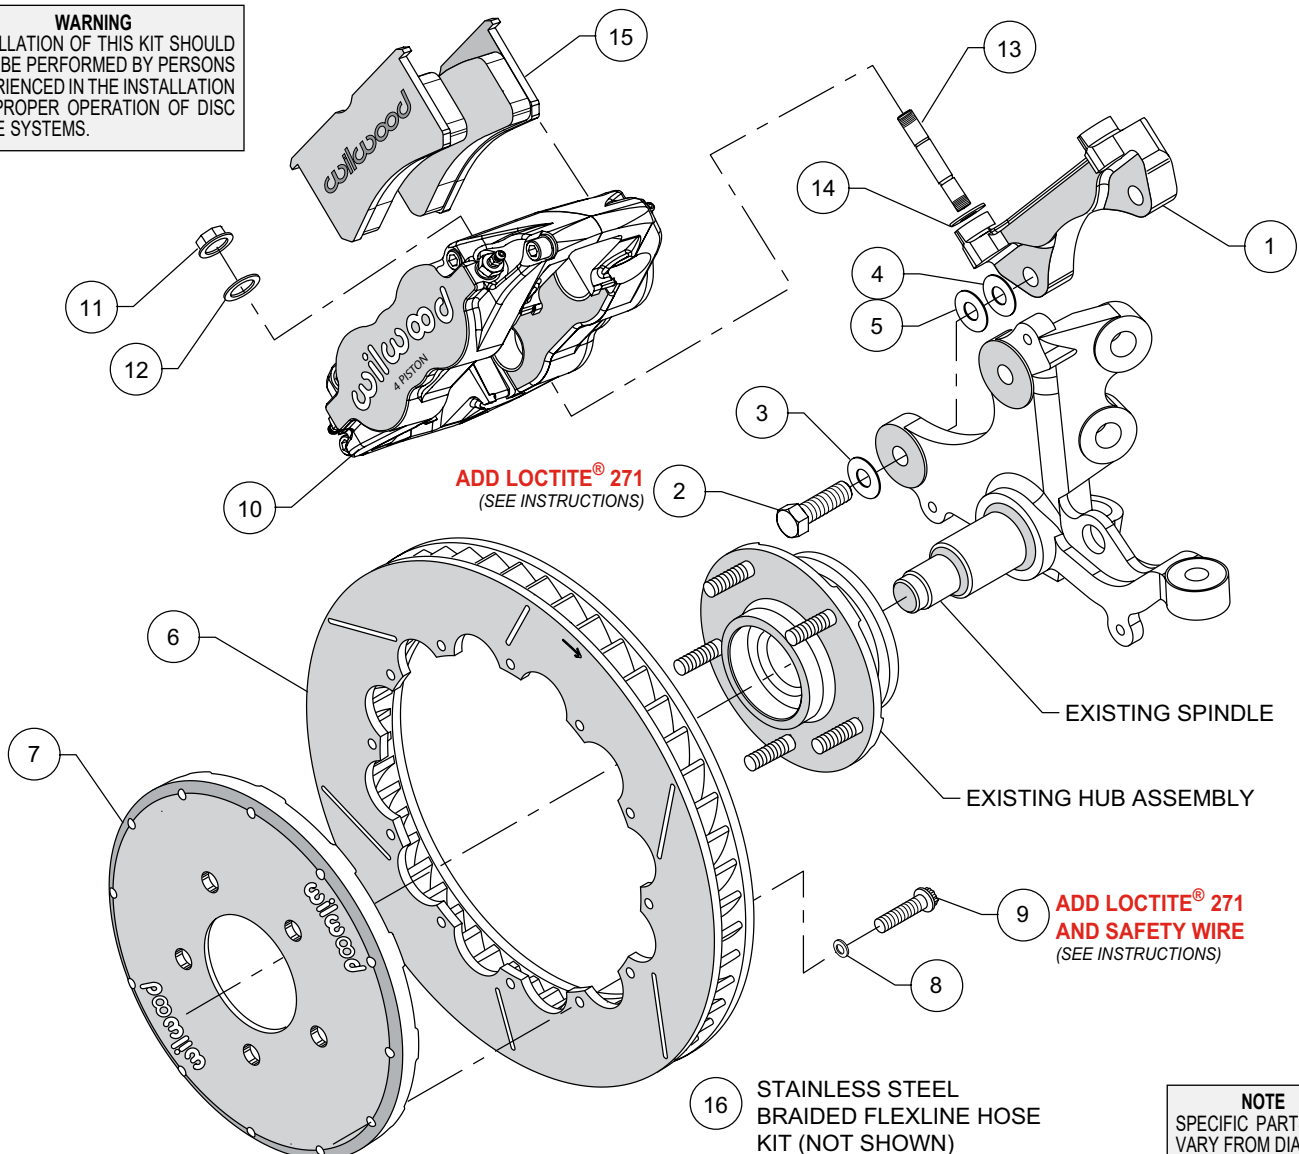
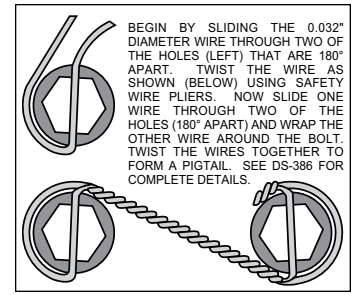

Figure 1. Typical Installation Configuration
Figure 3. Safety Wire Diagram
NOTE: Numbers in parenthesis refer to the parts list and Figure 1 on the preceding pages.
- The caliper mount bracket (1) should initially be installed with clean, dry threads on the mounting bolts. Orient the bracket as shown in Figure 1, and install using bolts (2) and washer (3). Initially place one .033 thick shim (4) on each bolt between the bracket and upright, Figure 1. Temporarily tighten the mounting bolts. Later, after the caliper alignment has been checked, the mount bolts will be secured using red *Loctite*[®] 271.
- Orient the rotor (6) and the hat (7) as shown in Figure 1 and Photo 1. Attach rotor to hat using bolts (9) and washers (8). Apply red *Loctite*[®] 271 to the bolt threads and torque to 155 **in-lb** using a criss-cross pattern. Safety wire bolts using standard 0.032 inch diameter stainless steel safety wire as shown in Figure 3. Refer to Wilwood's data sheet DS-386 (available at www.wilwood.com/Pdf/DataSheets/ds386.pdf) for complete safety wire installation instructions.
- NOTE:** *This kit contains distinct right and left hand calipers that must be mounted in a specific direction, as described below.* Initially place one .035" thick shim (14) on each stud (13) as shown in Figure 1 and Photo 2. Mount the caliper (10) onto the bracket (1) using lock nuts (11) and washers (12), Figure 1. Ensure that the caliper is mounted so that the largest pistons are at the rotor exit end of the caliper, in relation to the direction of rotor rotation. Temporarily tighten the lock nuts and view the rotor through the top opening of the caliper. The rotor should be centered in the caliper, Photo 3. If not, adjust by adding or subtracting shims (4 and/or 5) between the bracket and the upright. Always use the same amount of shims on each of the two mounting bolts. Once the caliper alignment is correct, remove the bracket mounting bolts one at a time, apply red *Loctite*[®] 271 to the threads, and torque to 60 ft-lbs.
- Remove the caliper center bridge pad retainer bolt, nut, and tube from the caliper. Insert the brake pads (15) into the caliper, with